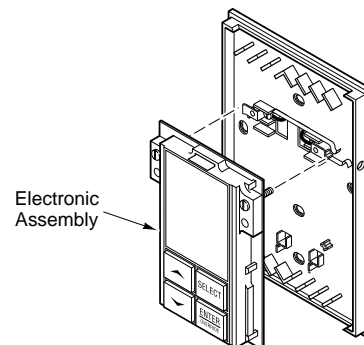

Figure-9 Electronic Assembly Installation.
2. Secure the electronic assembly to the base plate by tightening the two screws at the top of the assembly ((Figure-9)).